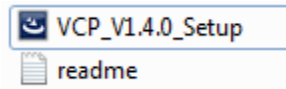

Figure 3.2. Install the VCP Driver
1. Plug in the mini-USB cable (item 3 in Figure 1.4) and power on the SL-881. Open the SL881_AVG_driver_installation folder from your test computer. Click VCP_V1.4.0_Setup to install VCP driver (as shown in Figure 3.2)
2. After the VCP driver installation is completed, open readme.txt (Figure 3.2). Follow the steps in the “How to use” section in readme.txt to install the dpinst driver.